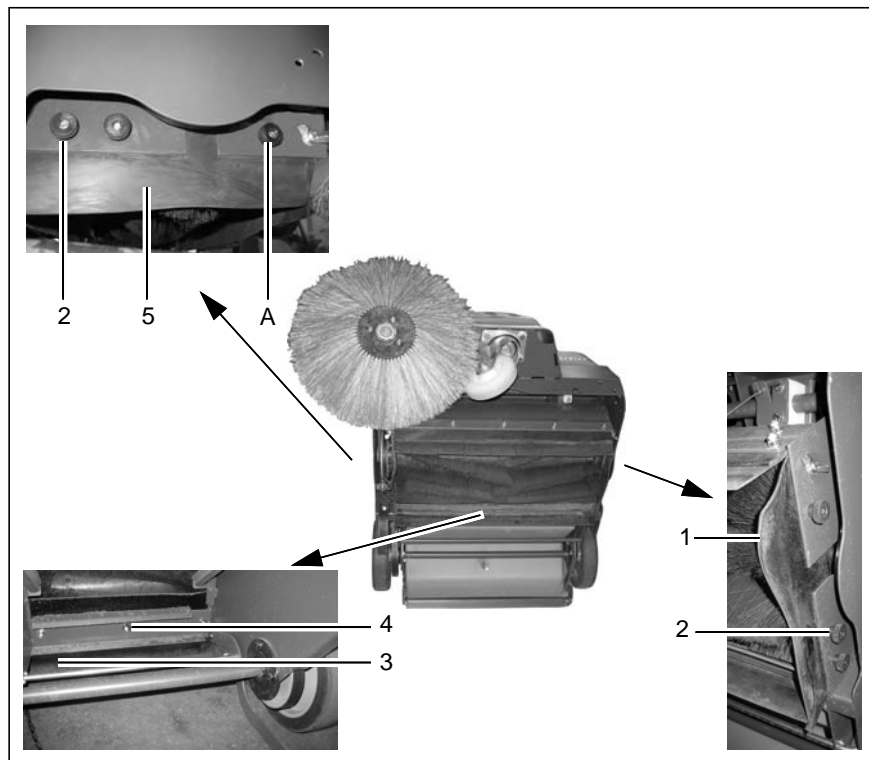

Fig. 22
2. Unscrew the screw connections (Fig. 22/2) in the side aprons (Fig. 22/1+5).
3. Change the sealing strips and adjust the side aprons (Fig. 22/1+5): There must be approx. 0.04 - 0.08 in clearance to the floor.
4. Screw the screw connections (Fig. 22/2) back in the side aprons (Fig. 22/1+5). Also screw the ground of the wing nut at Position A (Fig. 22/A).
6. Unscrew the screw connections (Fig. 22/4) in the rear aprons (Fig. 23/1+2).
7. Change the sealing strip and adjust the rear apron (Fig. 22/3): The clearance of the rear apron (Fig. 23/2) from the ground must be 0.04 - 0.08 in.
8. Screw the screw connections (Fig. 22/4) back in the rear aprons (Fig. 23/1+2).